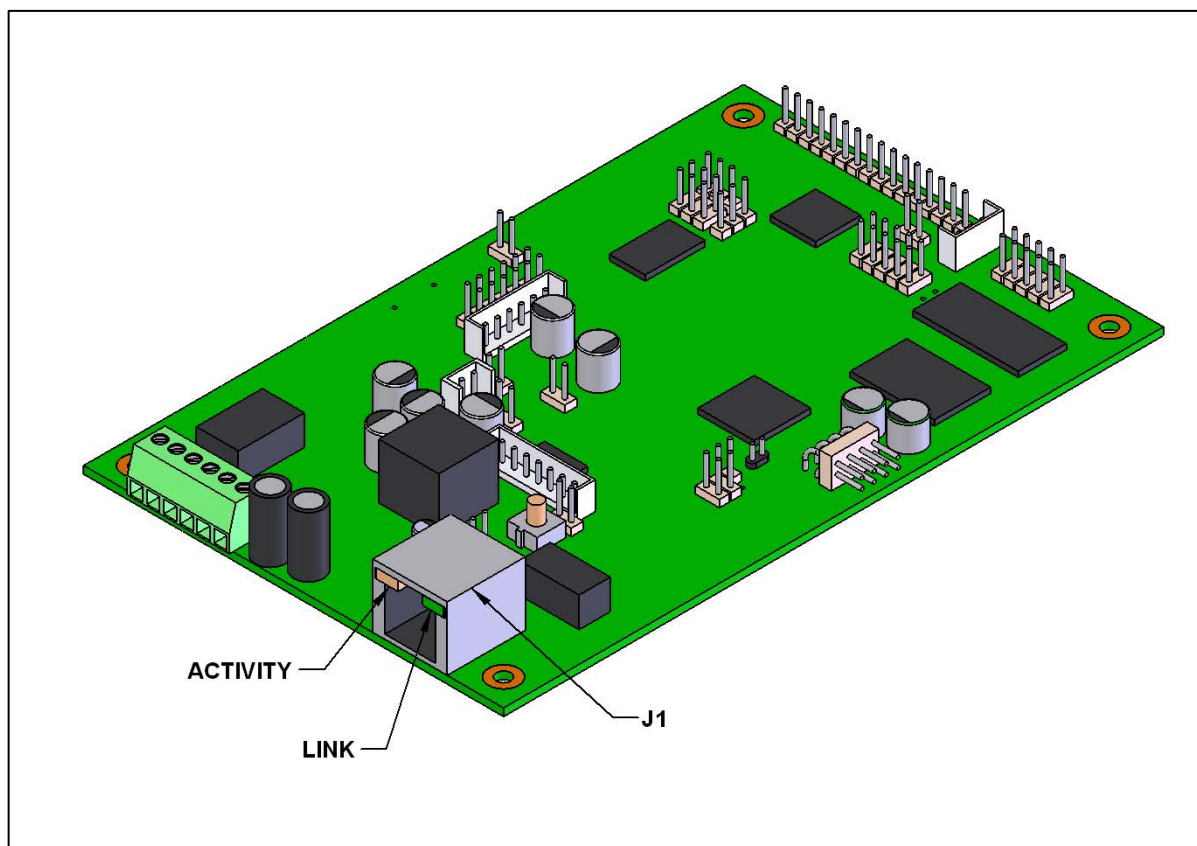

Figure 8 - Network Activity
See: Section 13.5 RESET Switch and Figure 8 - Network Activity
- The square, green **Link** light above the Ethernet port indicates that the network connection has been established (see Figure 8). The Link light changes color to confirm the auto-negotiated baud rate: